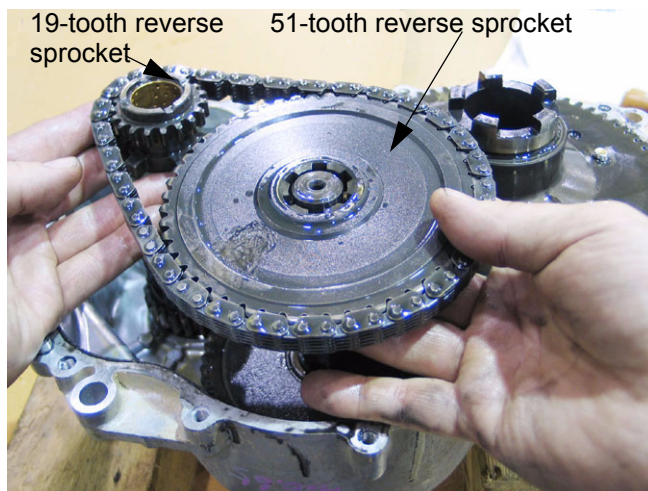

Figure 9.35
- 9.35. Lift the 51-tooth sprocket off of the reduction shaft along with the 19-tooth sprocket from the input shaft and the link-belt reverse chain. See Figure 9.35.